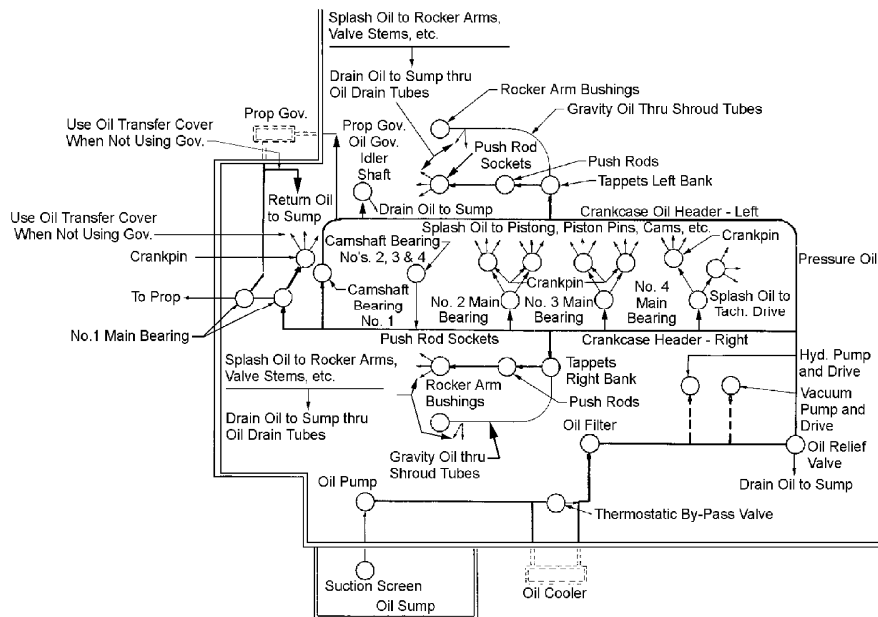

Figure 1-1. Oil System Schematic Diagram
The lubrication system in the (L)IO-360-M1A engine uses a wet sump. Figure 1-1 shows a schematic diagram of the oil system.
Lubrication System - The lubrication system is of the pressure wet sump type. Figure 1-1 shows a schematic diagram of the oil system. The main bearings, connecting rod bearings, camshaft bearings, valve tappets, push rods and crankshaft idle gears are lubricated by means of oil collectors and spray. The oil pump, which is located in the accessory housing, draws oil through a drilled passage leading from the oil suction screen located in the sump. The oil from the pump then enters a drilled passage in the accessory housing, where a flexible line leads the oil to the external oil cooler. In the event that cold oil or an obstruction should restrict the flow of oil to the cooler, an oil cooler bypass valve is provided. Pressure oil from the cooler returns to a second threaded connection on the accessory housing from which point a drilled passage conducts the oil to the oil pressure screen, which is installed in a cast chamber located on the accessory housing below the tachometer drive.